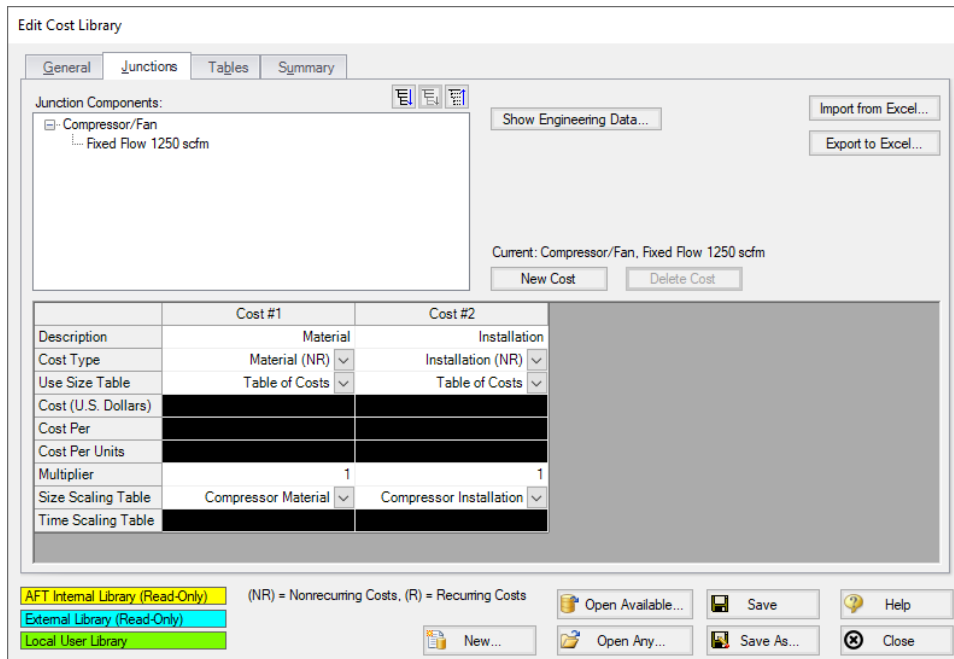

Figure 6: Compressor Material and Installation costs assigned using cost tables
2. The Cost Type should be specified as Material (NR), which is the default option. Note that NR denotes a non-recurring cost type, while R denotes a recurring cost type.
7. Specify Table of Costs for Use Size Table, then set the Size Scaling Table to the Compressor Installation table. The window should now appear as shown in Figure 6.